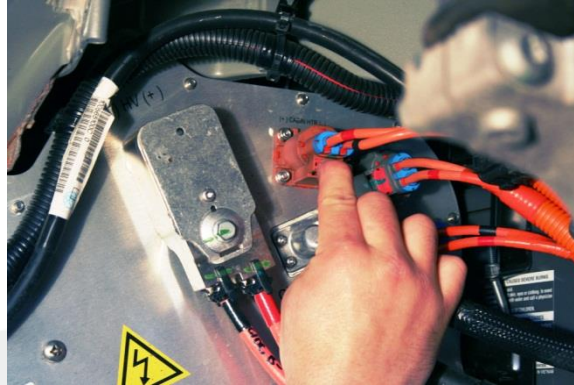

Figure 16
14. Reinstall the connector on the DCDC converter terminal. Ensure that the red tab is pushed in to lock the connector (Figure 16).